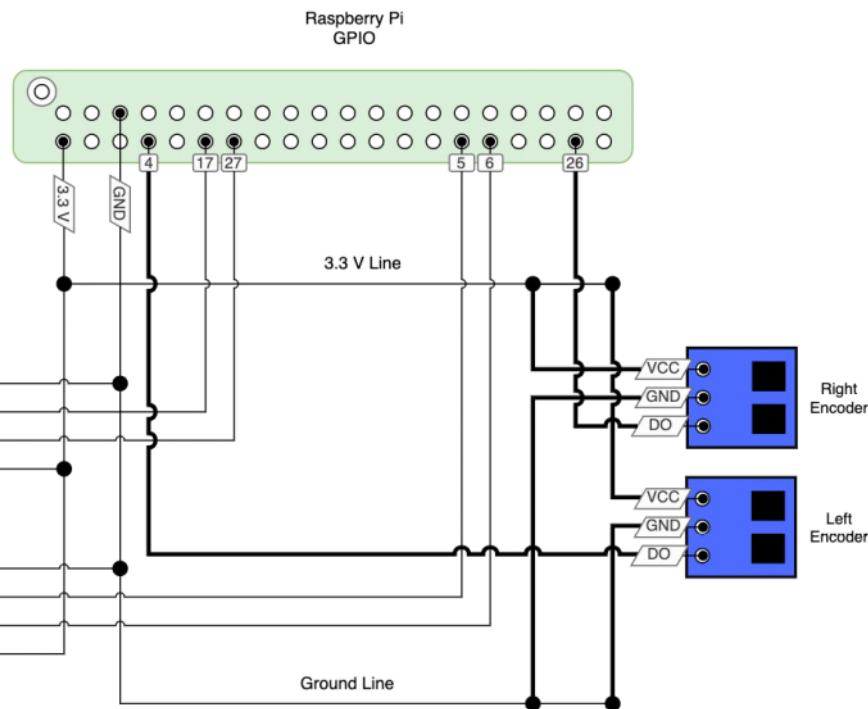

Figure 11.10 – Circuit for connecting the encoders to the Raspberry Pi
*Figure 11.10* shows the connections for these sensors:
*Figure 11.10* shows the circuit for connecting the encoders to the Raspberry Pi. This diagram continues from the circuit seen in Chapter 8, *Programming Distance Sensors with Python*. The new connections have thicker wire lines.
On the right of *Figure 11.10* are the right and left encoder modules. The sensor will have a VCC, VIN, 3 V, or just V label. Connect this to the 3.3 V line. Find the GND pin labeled GND, 0V, or just G and connect it to the black/blue band on the breadboard. The encoders also have a pin labeled DO (digital out), SIG (signal), or just S, connected to a GPIO pin for the digital signal. We connect the digital outputs from the sensors to GPIO pins 4 for the left encoder and 26 for the right encoder.